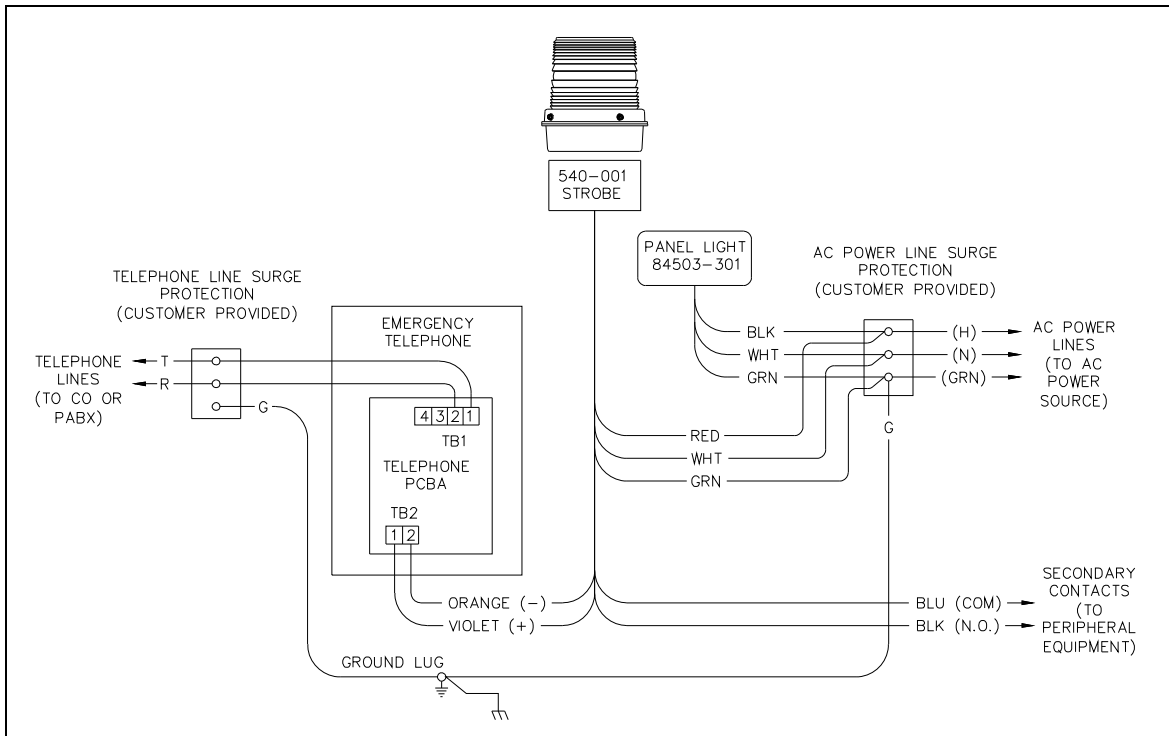
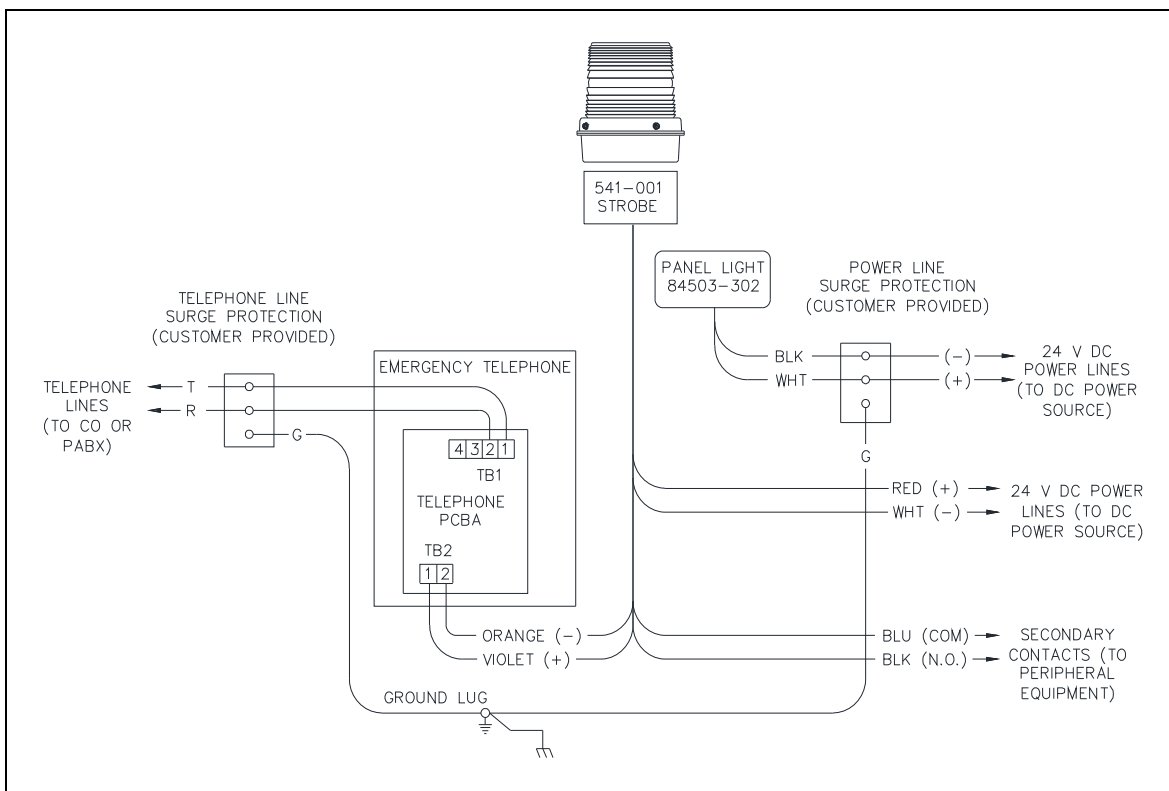

Figure 11. Interconnection Diagram with AC-Powered Strobe
Figure 12. Interconnection Diagram with DC-Powered Strobe
6. Refer to GAI-Tronics Pub. 42004-499 (Model 540-001) or 42004-529 (Model 541-001) for detailed strobe installation instructions (see Figure 11 and Figure 12 for general wiring instructions).
For all component wiring, refer to the specific equipment manual and the interconnection diagrams (see Figure 11 and Figure 12).
2. Terminate the power conductors (see Figure 11 for ac installations or Figure 12 for dc installations).